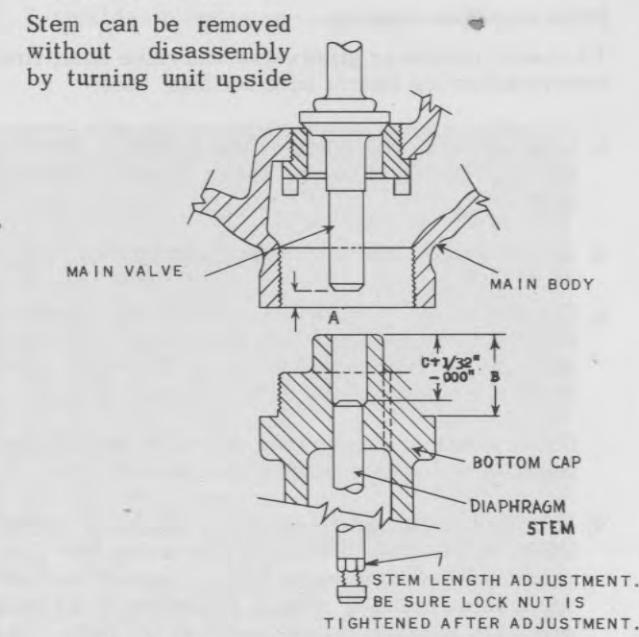

FIG. 4 Setting Clearance Between Main Valve and Diaphragm Stem
- Set clearance between main valve and diaphragm stem. See Fig. 4. Measure dimension "A" and "B". Subtract "A" from "B" and call this dimension "C". Adjust diaphragm stem length so that when in place measurement "C" equals dimension "C".